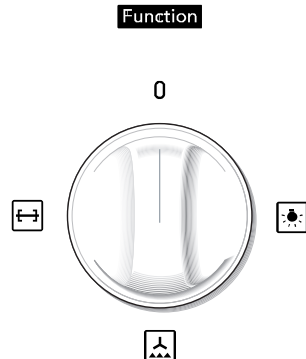

Fig. 2.6
The fan is controlled by a knob (fig. 2.6).
- To operate the fan motor turn the knob indicated in fig. 2.6 to  position.
To light the oven lamp turn the knob (fig. 2.6 or 2.9) to the symbol .
To operate the rotisserie motor turn the knob indicated in fig. 2.6 or 2.9 to  position.